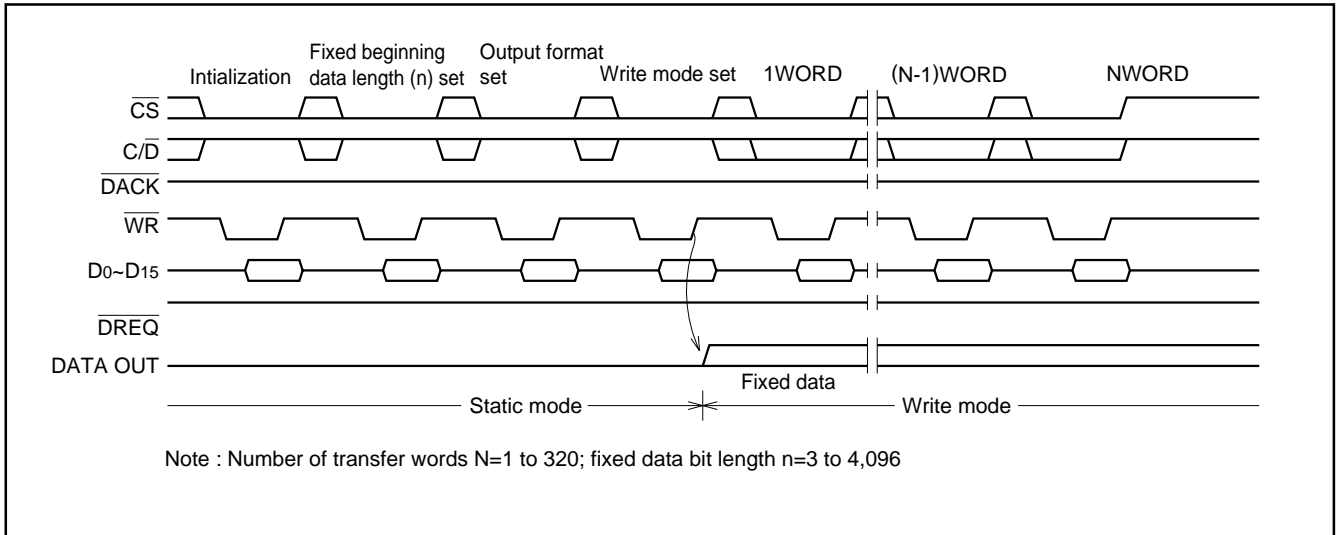

Fig. 5 Storing commands and data by MPU cycle
(See Fig. 5.)
1. Storing commands and data from system bus to M66307 Figures 5 and 6 show the timings at which commands and data from the system bus are stored in the M66307 after reset is input or the stop command is issued.